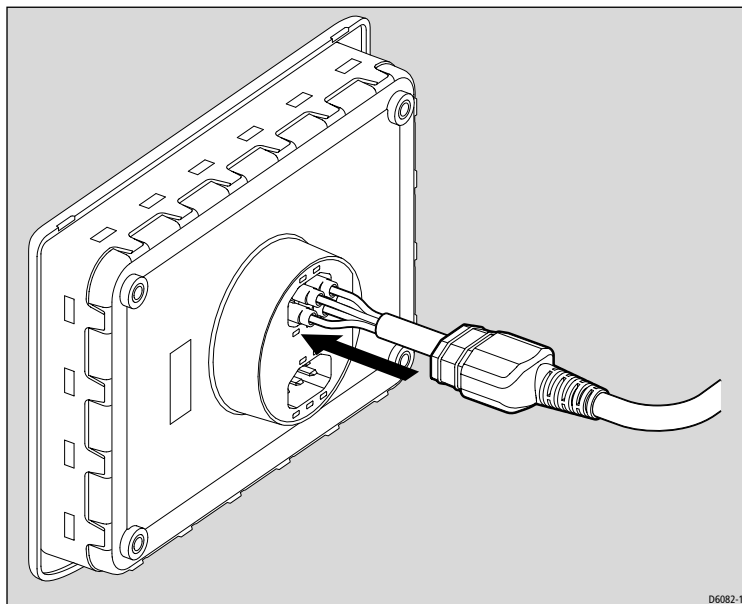

Figure 2-30: Sliding cable boot into position
4. Slide the boot fully home into the instrument connector (see *Figure 2-30*).